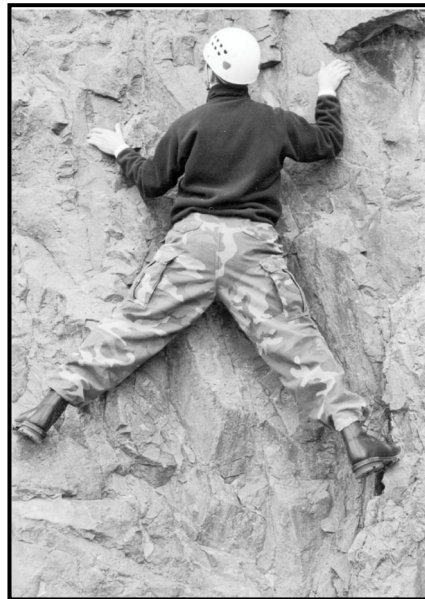

Figure 6-15. Stemming on a face.
(5) *Stemming*. When the feet work in opposition from a relatively wide stance, the maneuver is known as stemming. The stemming technique can sometimes be used on faces, as well as in a dihedral in the absence of solid handholds for the lieback (Figure 6-15).